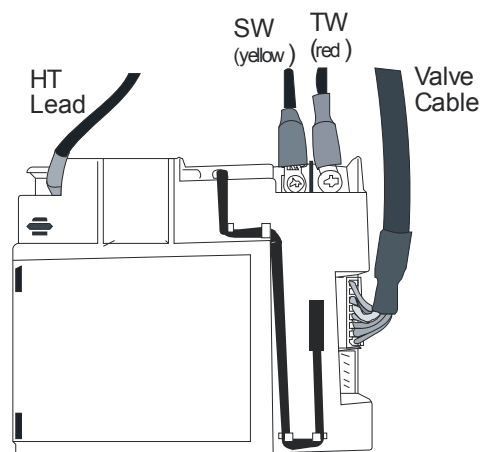

Figure 82
2. Gently pull out the HT lead and the valve cable from the receiver (see **Figure 82**).